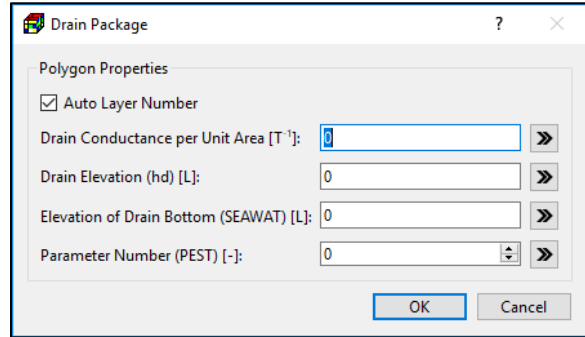

Figure 53. The Drain Package dialog box for specifying polygon properties
3. **Polygon input method:** Figure 53 shows the dialog box used to define polygon properties. The polygon data may be assigned to model cells following the rules described in Section 3.4.2.3 and the rules below.